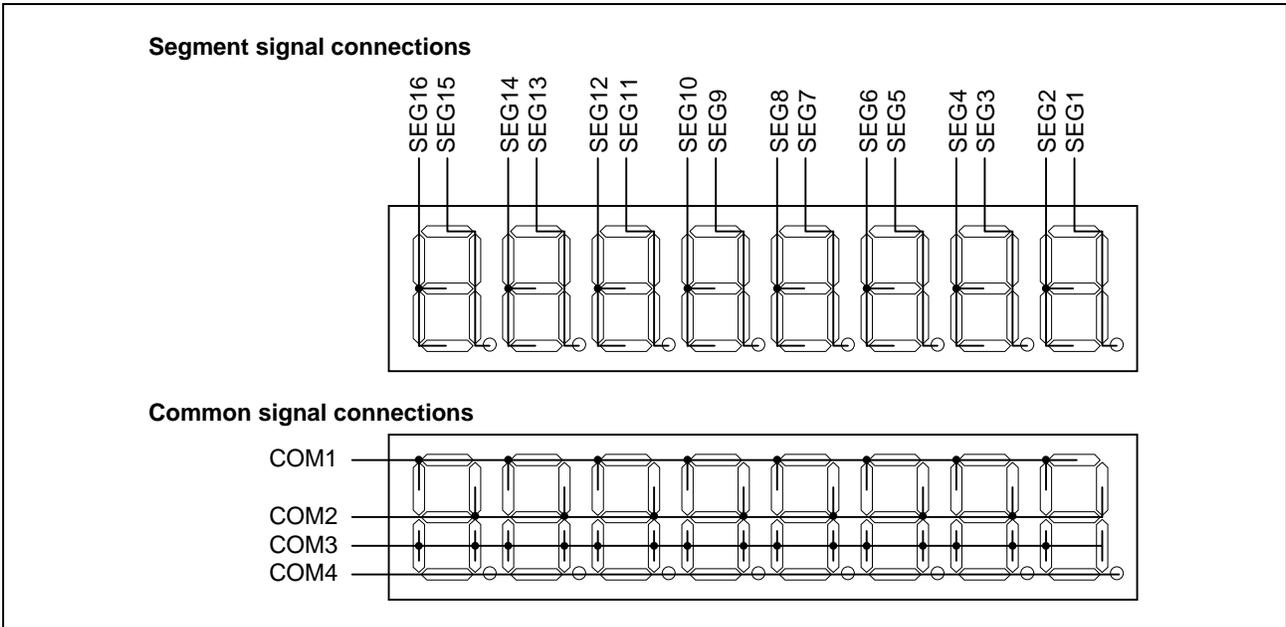

Figure 5 LCD Panel Segment Signal and Common Signal Connections
- (3) The functions of the LCD controller/driver are described below. This sample task uses 1/4 duty cycles to enable display on the 8-digit LCD panel. The LCD panel segment signals and common signals used in this sample task are shown in figure 5.